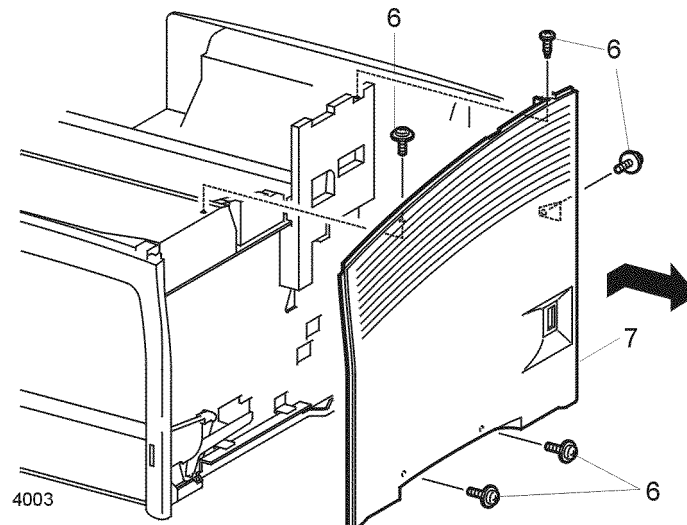

Figure 1 Right Side Cover
6. Remove the 5 screws that secure the Right Side Cover to the printer (Figure 1).
7. Remove the Right Side Cover (Figure 1).